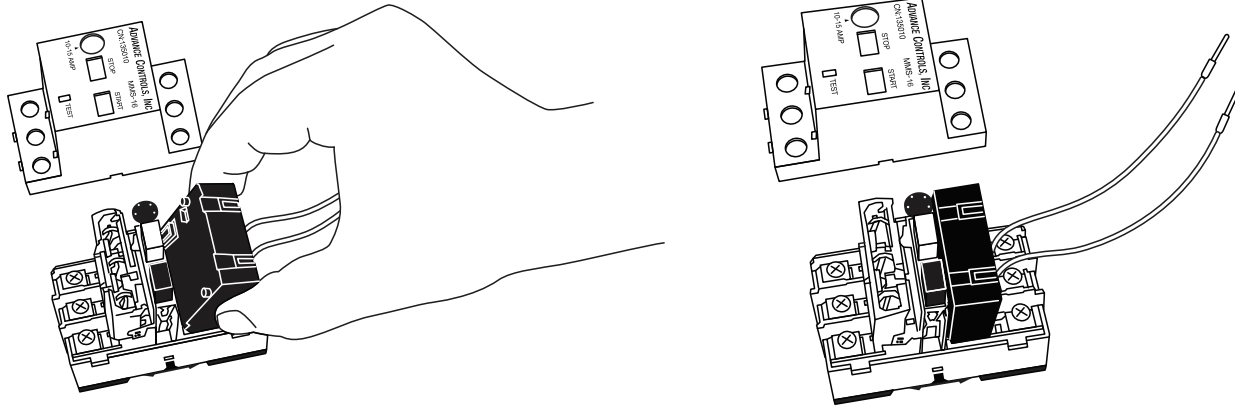

Fig. 125 — Installing the Shunt Trip (ACI Part No. 135046)
5. Install the shunt trip into the MMS as shown in Fig. 125.